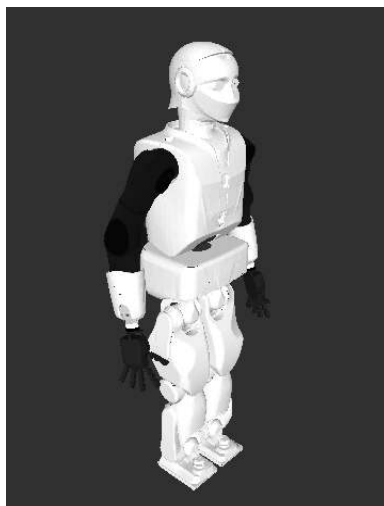

Figure 103: Robot arm in the `interact` configuration.
2. Open another terminal connected to REEM-C, and bring the robot to the `interact` configuration, shown in Figure 103, from which an emergency stop will not cause the arm to drop, and from which hand initialization can be performed.